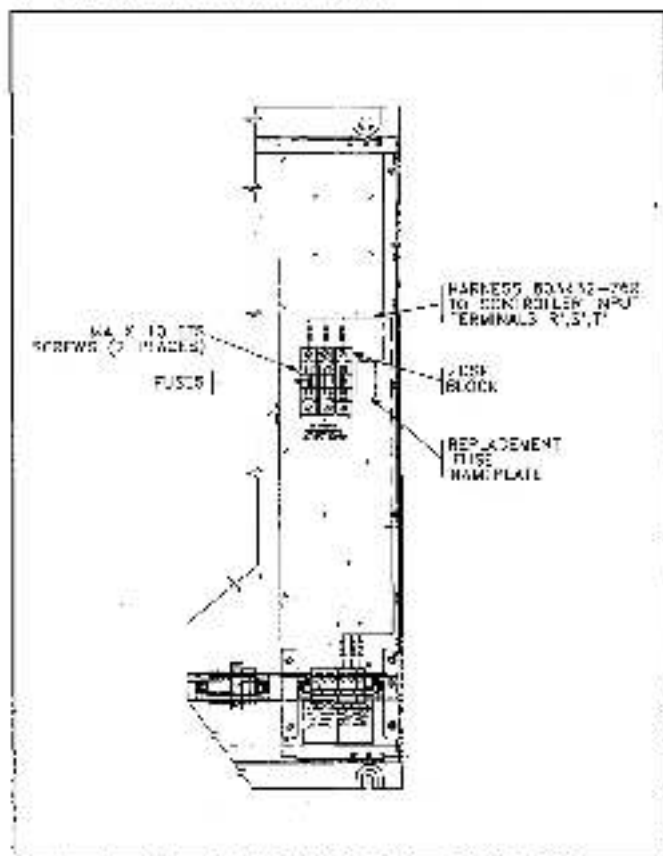

Figure 1. Fuse Block Mounting Location and Connection Diagram (1-20 HP GP2000 Expanded Cabinet, 25-40 HP GP2000, 1-50 HP VTAC V Controllers).
3. Mount the fuse block in the controller cabinet. Refer to Figure 1 for mounting location. Use M4 x 10 TTS screws to mount the fuse block.
5. Using wire harness 803432-76R (181B, 182B, and 183B), connect the terminals on the top of the fuse block to input terminals R', S', and T' on the terminal board. Refer to Figure 1 for wiring detail.
6. Using wire selected in accordance with all applicable codes, connect the leads on the RPM blower motor to the terminals on the bottom end of the fuse block. Route the motor lead wiring through an appropriate conduit hole on the top or bottom of the controller cabinet. Refer to Figure 1 for wiring detail.
8. Select the appropriate nameplate based on fuse amperage selected in the previous step. Mount the nameplate beside the fuse block. Refer to Figure 1 for location.